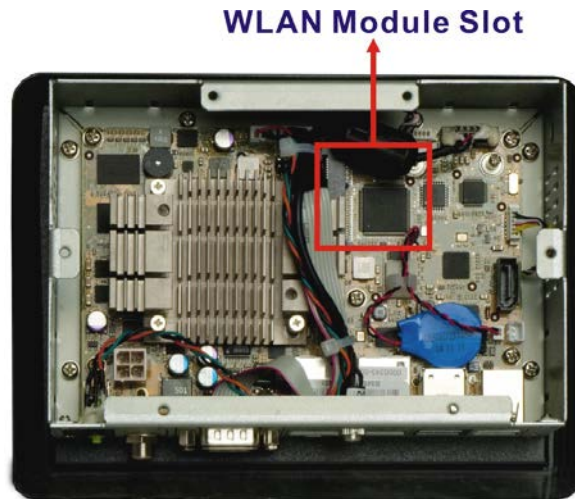

Figure 3-7: PCIe Mini Slot Location
Step 3: Locate the PCIe Mini slot (**Figure 3-7**).